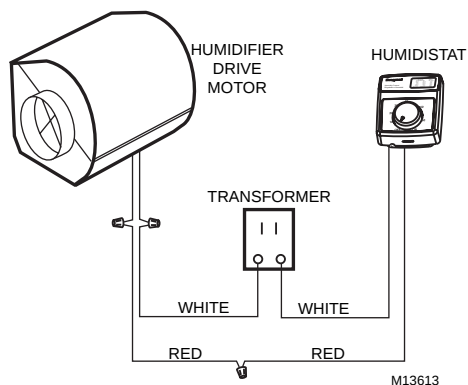

Fig. 51. Wiring diagram.
7. Check wiring per Fig. 51.
- ☐ Control wiring was reviewed per wiring diagram. (Fig. 51).